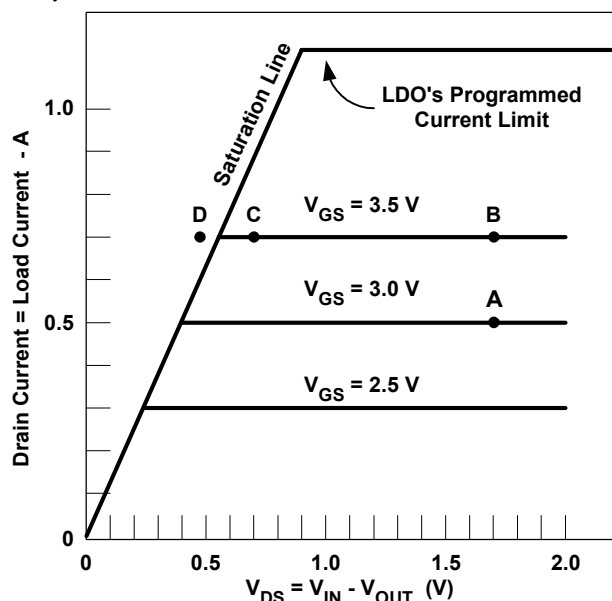
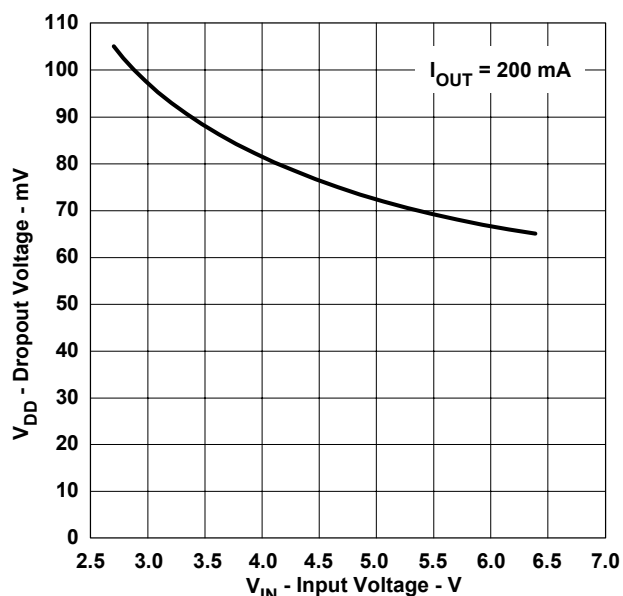

Fig. 3 Operating region of an LDO's N-channel pass element.
Fig. 7. TPS79901 dropout voltage vs. input voltage.
Fig. 3 shows the operating region of an LDO's N-channel pass element. The range of operation is limited in the x-axis by the saturation region of the pass element, and limited in the y-axis by either the pass element's saturation region or by the IC's programmed current limit. In order to operate properly and maintain a regulated output voltage, the pass element must operate within the boundaries set by these two lines. In the example, the drain-to-source voltage of 1.7 V and the drain current of 500 mA set the operating point at "A." At this point, the LDO sets the pass element's gate-to-source voltage at 3 V to maintain regulation. A line drawn through the origin and point "A" represents the 3.4  $\Omega$  resistance.
Consider a change to the static conditions in the example: if the load resistance decreases (an increase in load current), the LDO must react to maintain regulation. If it doesn't react, the LDO has a higher voltage drop across the pass element which causes the output voltage to fall out of regulation. The LDO must decrease the pass element's resistance by increasing the gate-to-source voltage on the FET. When the gate-to-source voltage increases, the operating point moves upward, assuming a fixed input and output voltage. If  $I_{OUT}=700\text{ mA}$ , the error amplifier increases the pass element's gate-to-source voltage to 3.5 V to maintain regulation. This corresponds to "B." A line drawn through the origin and point "B" now represents a pass element resistance of  $2.4\ \Omega$ . Fig. 3 shows that with a drain-to-source voltage of 1.7 V, the LDO's maximum current draw is only limited by the maximum programmed current limit.
LDO datasheets can only specify the IC's dropout voltage under a limited number of operating conditions. Few datasheets provide a graph like that shown in Fig. 3. For all other conditions, the user must interpolate the data to determine the dropout voltage at a specific output current. This task is surprisingly easy. As an example, consider an application that requires  $V_{OUT} = 3\text{ V}$  at 170 mA with an input voltage that varies between 3.15 V and 3.45 V. The designer has chosen a TPS79330 LDO and needs to know if it can be ensured that the LDO doesn't enter dropout.
Table 1 shows the datasheet's ensured dropout voltage from the parametric table. The datasheet shows that the maximum dropout voltage (ensured over all temperatures) for a 3.0 V output at 200 mA is 200 mV. The minimum input voltage of 3.15 V for this application requires the effective dropout voltage be less than 150 mV at 200 mA. For this regulator, the actual dropout is less than 200 mV since the current is less than 200 mA, but the datasheet does not specify the dropout voltage at 170 mA. When operating in dropout, the LDO pass element is at its minimum  $R_{DS(on)}$  which is equivalent to operating on the saturation line like the one shown in Fig. 3. This minimum resistance is calculated by dividing the dropout voltage by the test current. The TPS79330 pass element minimum  $R_{DS(on)}$  is shown in Equation (3).
Another factor affecting an LDO's minimum dropout resistance is the input voltage to the device. This is a second-order effect, but is worth noting. The higher output voltage options require a higher input voltage, which allows the device to drive the pass element harder, and in turn provides a slightly lower resistance. Most discrete FET datasheets show a change in  $R_{DS(on)}$  versus gate-to-source voltage. Some LDO datasheets provide a graph (Fig. 7) of dropout versus input voltage, but this is rare. Even without a graph, this information is evident from the dropout data shown in Fig. 4. The 3.0-V option (TPS79330) in Fig. 3 has a 200-mV dropout voltage while the 4.75-V option (TPS793475) has a 125-mV dropout voltage. This is a 37 % reduction in dropout voltage.